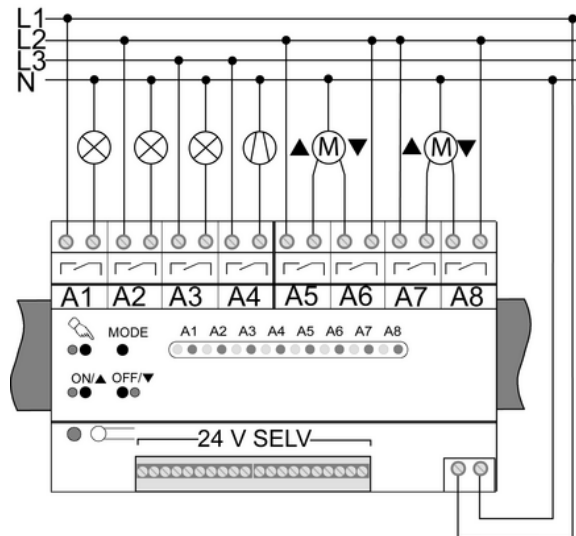

Figure 4: Wiring example for mains voltage and loads
Output terminals up (figure 4).
- Connect the mains voltage to connection (7) (figure 4).
- Connect loads as shown in the wiring example (figure 4).